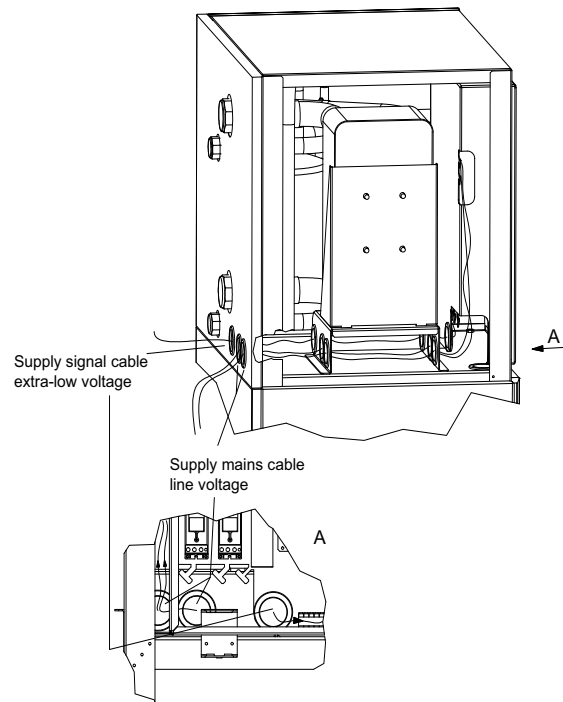

Fig. 7.4: Cable inlet switch box
**For installation work on the switch box, ensure that the mains cable and signal cables are inserted separately into the switch box. The specially arranged switch box inlets must be used for this purpose (see Fig. 7.4 on page 7).**